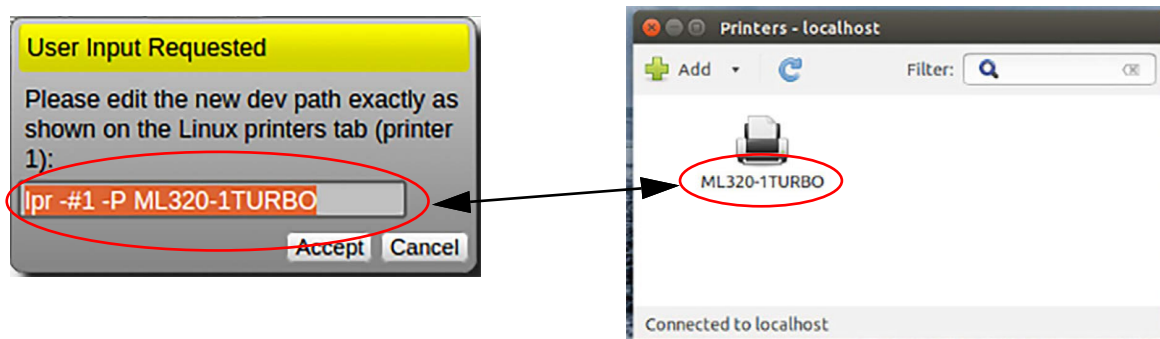

Figure 6-20. Printer Name Match
10. If the name of the printer must be changed in the CB-3 program, click inside the printer text box. Use arrows on the keyboard to move the cursor within the text. The right and down arrows move the cursor to the end of the text. Change the name within the text box to match the name on the computer printers menu. Ensure there is one space after **lpr - #1-P** as in Figure 6-20 on page 86.